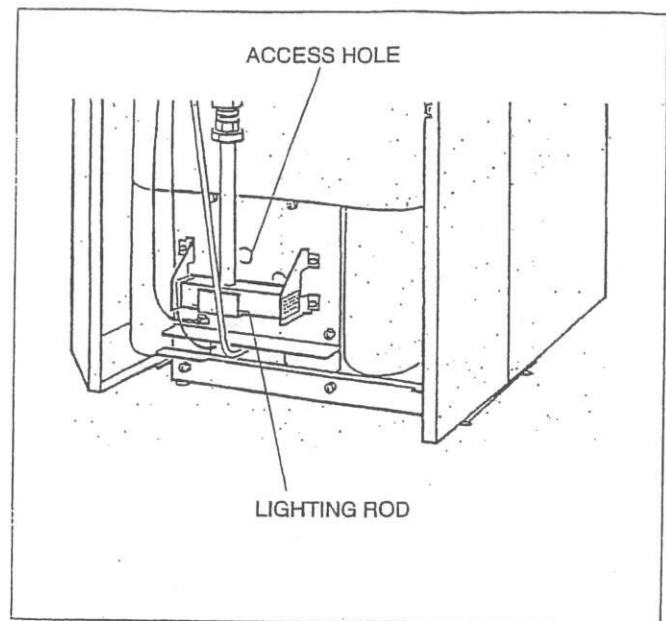

Fig.8
36. Wait five (5) minutes to clear out any gas. Then smell for gas, including near the floor. If you smell gas, **STOP!** Follow "B" in the safety information printed on page 5. If you do not smell gas, go to the next step.
37. Locate the pilot assembly by looking through the access hole in the burner assembly plate, fig.8.
39. Push in red reset button all the way and hold in. Immediately light the pilot using the lighting rod provided, fig. 8 and a match. Continue to hold the red reset button in for about one (1) minute after the pilot is lit. Release the button and it should pop back up. Pilot should remain lit. If the pilot goes out, turn gas control knob clockwise  to "OFF", and repeat steps 36 through 39.